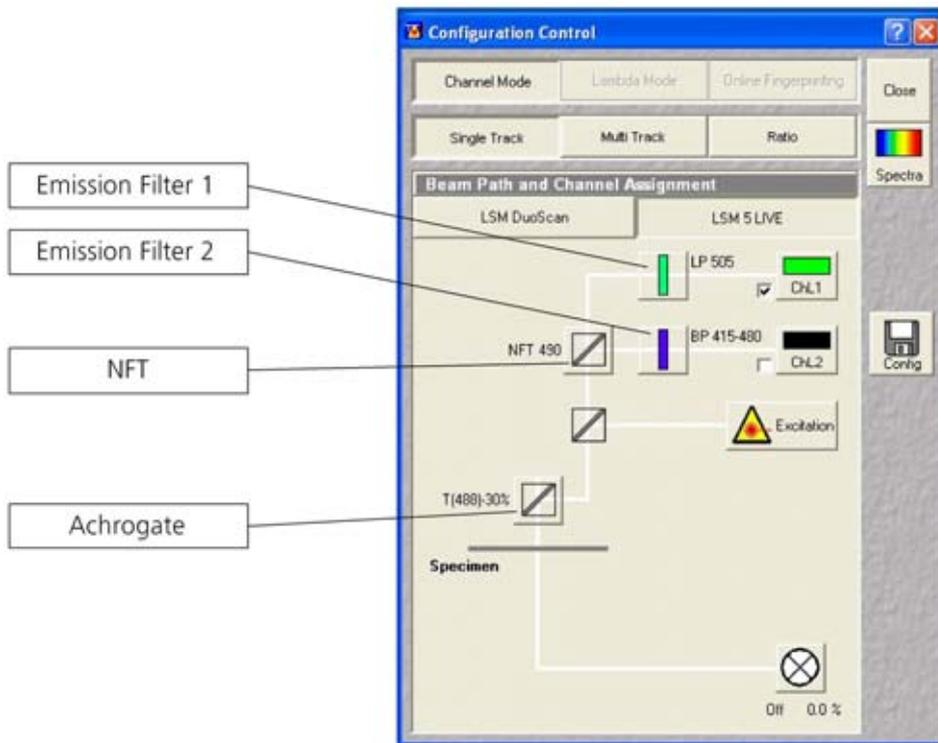

Fig. 4-38 Configuration Control window
The assignment of the numbered emission filters (1-2), NFT secondary dichroic beam splitters and Achrogate main beam splitters in the **Beam Path and Channel Assignment** panel is shown in the **Configuration Control** window (Fig. 4-38). The numbers of the emission filters correspond to those of the channels lying behind (PMT photomultipliers).
(2) Beam path - Achrogate main beam splitters and NFT secondary dichroic beam splitters
- On the **Beam Path and Channel Assignment** panel, click on the Achrogate main beam splitters  (see Fig. 4-38).
(3) Beam path - Emission filter